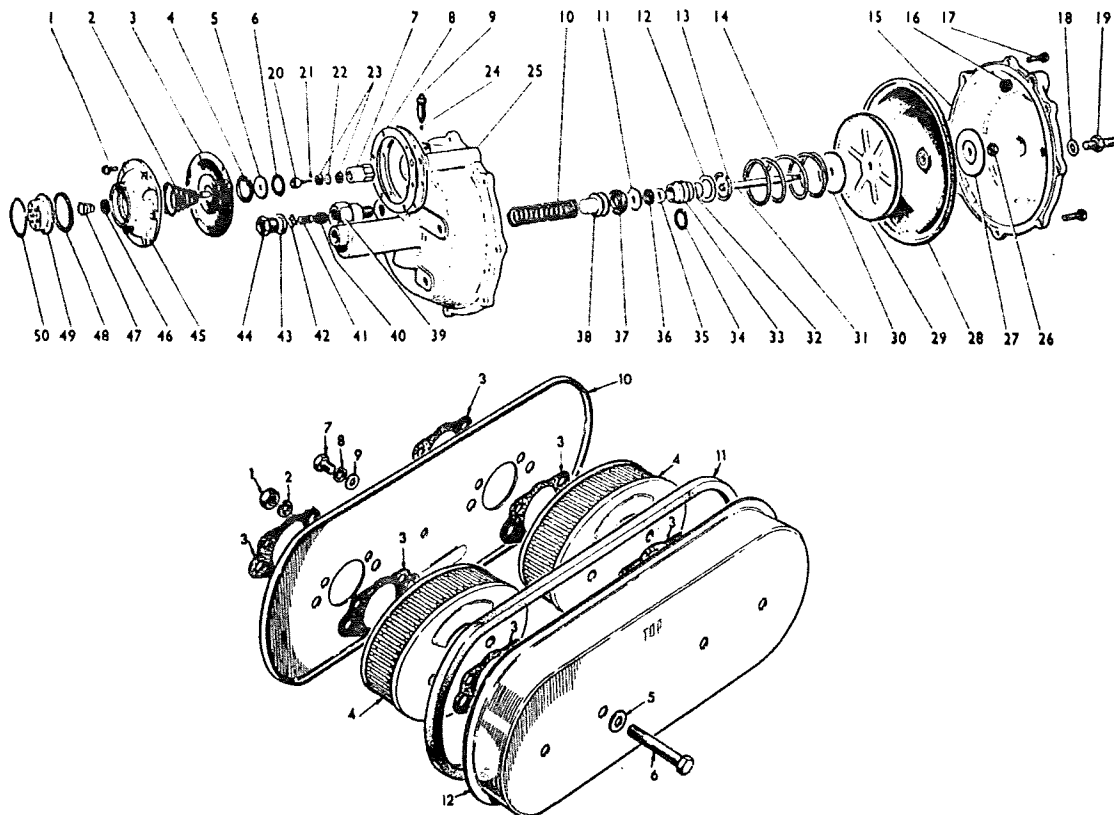

Figure UH-9: Mot-A-Vac and Air Box Accessories For The TR4 and TR4A
- **"Mot-A-Vac" Vacuum Servo Unit.** Power brakes were an option for the TR4/4A. The power-assist servo unit mounted to the firewall in front of the passenger (LHD cars). This explains the indentation in the rear of the right inner fender. The servo attached to a fitting in the center of the intake manifold to get manifold vacuum. Brake lines went from the master cylinder to the servo unit, and there to the brakes. The servo unit should be painted black except for the integral cylinder which should be natural aluminum. An exploded view of the Mot-A-Vac is below in Figure UH-9.
- **Air Box.** A TR4A option was to enclose the air filters in an air box similar to later TR units. This box is also shown below in Figure UH-9.